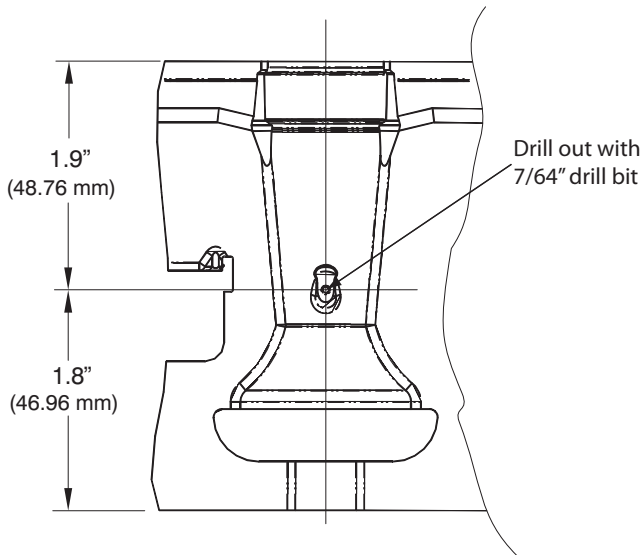

Fig. 4 - Locating Dimple on Each Burner Venturi Tube - Top Burner View
1. Locate the dimple on each burner venturi tube. If you cannot locate the dimple, refer to Fig. 4 for location of the **dimple on the top of each burner**.